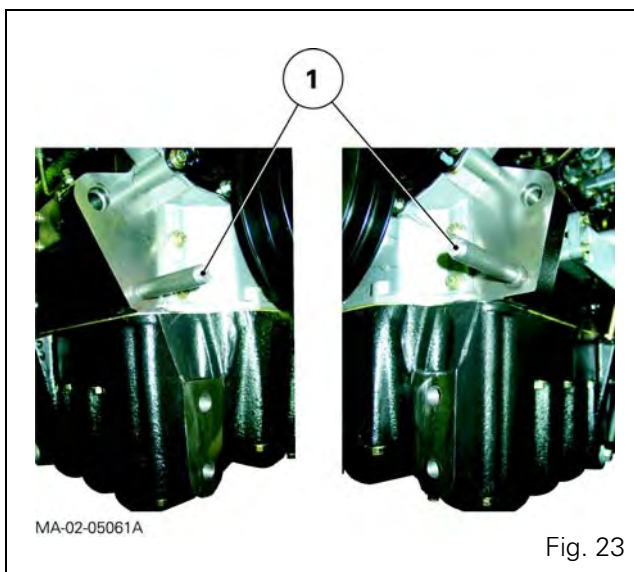

Fig. 23
46. Screw two guide studs (1) to the front face of the engine (Fig. 23).